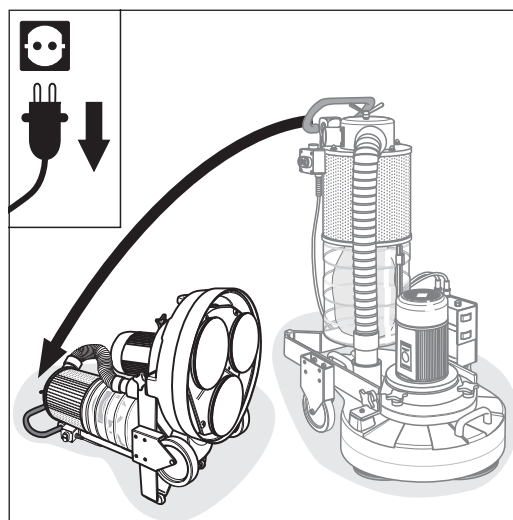
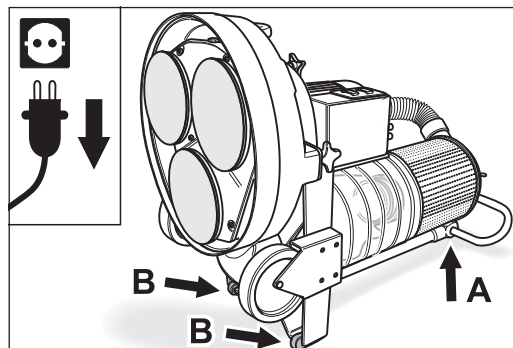

Fig. 5 Carefully tilt the machine backwards.
Fig. 6 Make sure that the machine gets to rest on the guide tube (A) and the two protective rubbers (B). **Make sure the machine is in a safe position!**
- 3 While holding on to the handle, carefully tilt the machine backwards into a horizontal position (fig. 5). Make sure that the machine gets to rest on the guide tube (fig. 6, A) and the two protective rubbers (fig. 6, B). **Make sure the machine is in a safe position!** Now the sanding plates are accessible from the front.